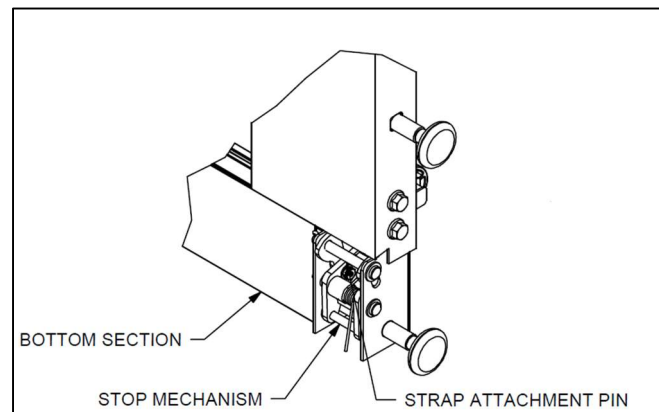

Figure 15 – ATTACHING SAFETY BRAKE SAFETY SYSTEM TO BOTTOM SECTION with the STOP BRACKET ASSEMBLY
- l. If the door includes the safety brake safety system option as shown in **Figure 15**, as the strap becomes tight the stop mechanism will rotate into the bottom insert assembly and out of the way of operation. If the strap becomes loose, due to failure or other reasons, the stop mechanism will deploy and catch the toothed angle installed on the wall angle.